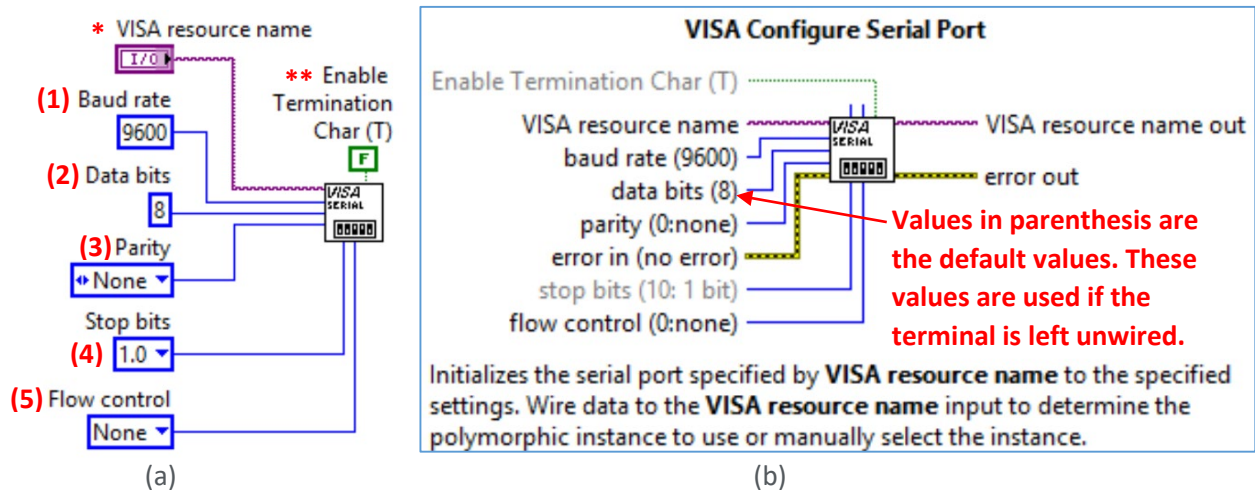
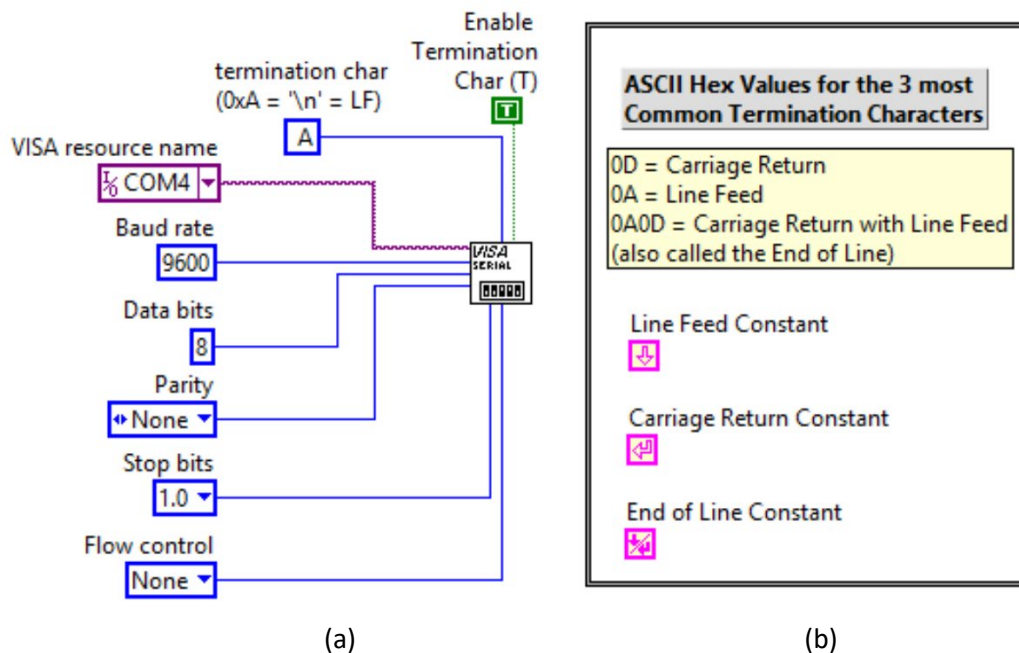

Figure 7.3: (a) Configuring a Serial Port in LabVIEW, (b) LabVIEW Context Help for VISA Configure Serial Port.
Figure 7.4: (a) Configuration with Termination Character Enabled. (b) 3 Most Common Termination Characters
** The Enable Termination Character is set to False in Figure 7.3a. If it is set to True, an ASCII character can be selected that sets the termination of a data packet. Line Feed, Carriage Return, and Carriage Return with Line Feed are the most popular types of termination characters and can be wired into the terminal to the left of the Enable Termination Character terminal as shown in Figure 7.4. I usually prefer to set the Enable Termination Character to False in the configuration VI (as shown in Figure 7.3) and manually add a termination character at the end of the data packet that is to be transmitted (see Examples 7.1 and 7.2).
The VISA resource name is set as a constant instead of a control in Figure 7.4. Setting it as a constant, makes the COM port number hard-coded on the block diagram instead of something that is selected on the front panel. The VISA resource name constant and the parity, Stop bits, and Flow control constants all have an arrow on their right side that allows the user to select the desired value from a list options instead of just typing in a value. This type of constant is called an enumeration (or enum) constant.
Other than the 5 parameters highlighted in Figure 7.3, the “endianness” is another consideration. **Endianness** refers to the byte order. When words with more than one byte are transmitted, the order in which the bytes are ordered must be selected. In big-endian format the most significant bytes of the word are ordered earlier than the least significant bytes and in little endian the least significant bytes are ordered earlier [\[25\]](#).
- 1) **Initialization** – Make sure the 5 parameters in Figure 7.3 are set to the same parameters on both devices.